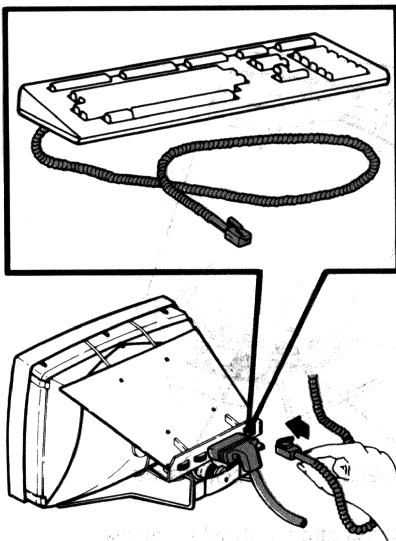

Figure 4-4 Connecting the Monitor for Adjustments
11. Reconnect all cables to the back of the monitor (Figure 4-4), and set the power switch to 1 (on).